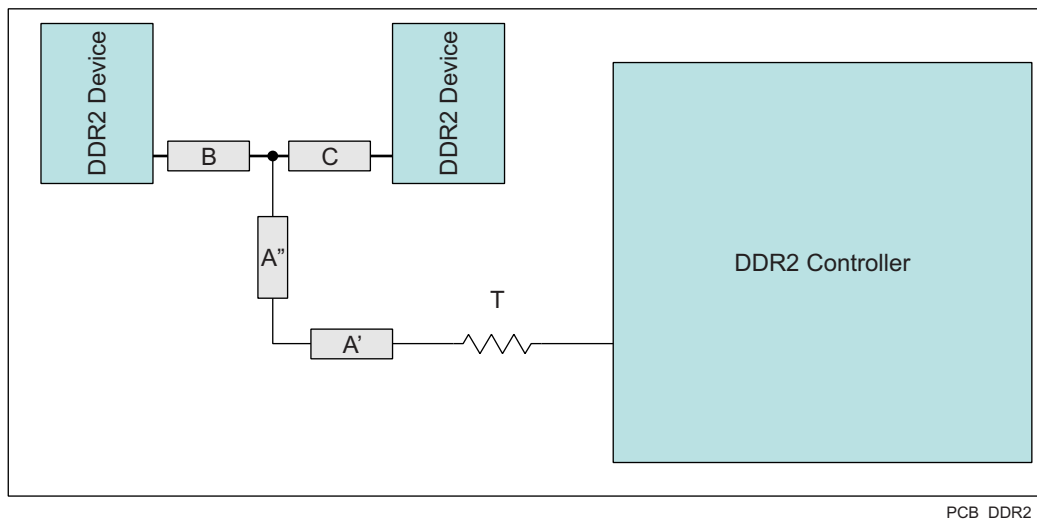

图 8-55. CK and ADDR_CTRL Routing and Topology
图 8-55 shows the topology of the routing for the CK and ADDR_CTRL net classes. The route is a balanced T as it is intended that the length of segments B and C be equal. In addition, the length of A = (A' + A'') should be maximized.
(1) The length of segment A = A' + A'' as shown in 图 8-55.